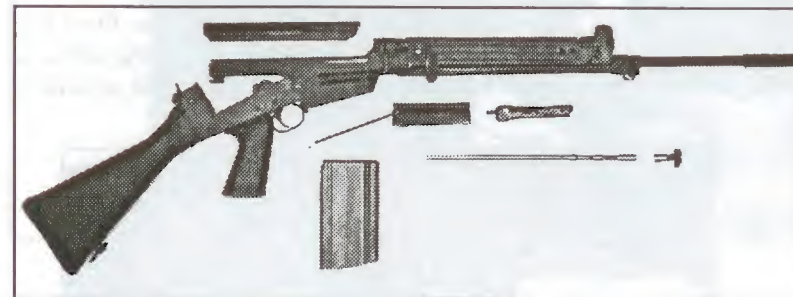

Fig. 1
6. **Stripping and assembly.** Stripping and assembly for normal cleaning and maintenance can be done with special tools. For the usual cleaning, it is sufficient to take out the magazine, gas plug and piston and the bolt assembly, after removing the top cover (fig. 1). The bolt assembly and the cover can be removed very easily. The weapon opens like a break action shot-gun, i.e. the butt is hinged to the body and the rifle swings open to give access to the mechanism. The return springs, encased in the butt, requires minimal maintenance and should be cleaned manually by the user.
Turning the gas regulator to the left (anti-clockwise) causes the opposite effect: gas escape is increased and the balance available to work the piston is decreased. By a system of "clicks" and engagement of the gas regulator spring, the regulator has 13 different positions (12 "clicks" to open fully). To make setting in any given position easier, figures are engraved on the gas regulator, the figure 1 corresponding to the completely closed position and one figure for every 2 "clicks" opening.